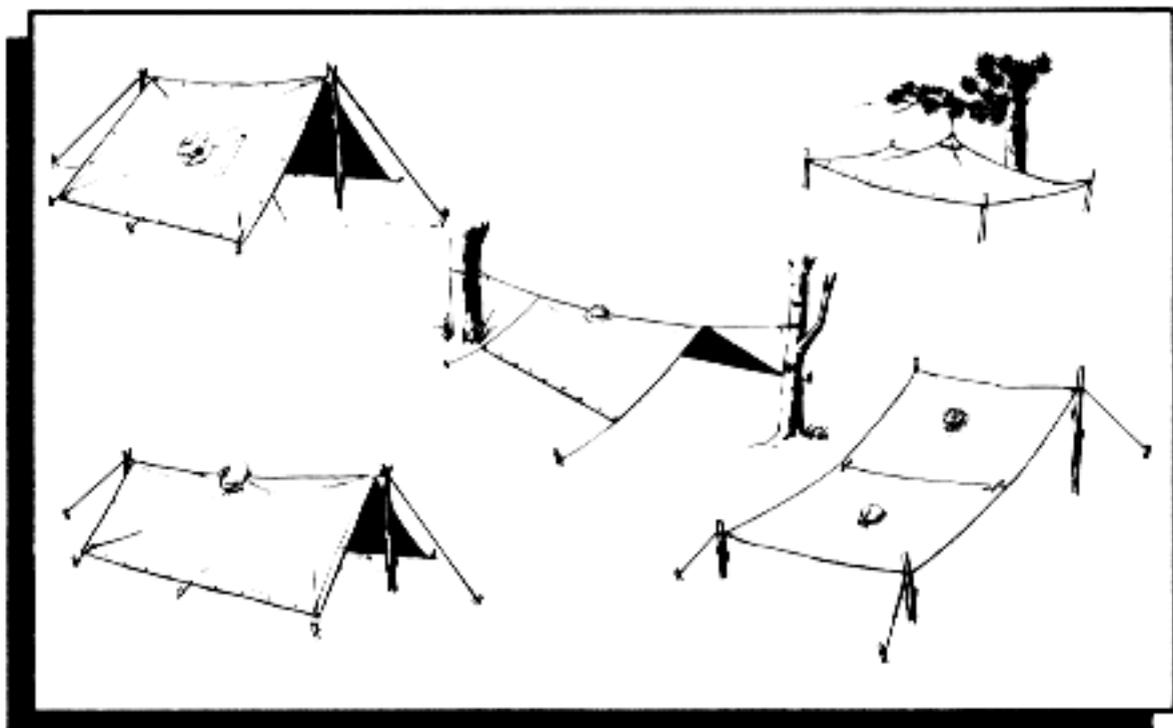

Figure 3-3. Poncho in miscellaneous shelter configurations.
**Shelter.** Various types of shelters and lean-tos can be made by attaching ponchos to trees, tree branches, bushes, sticks, or poles. Always dig a ditch under the bottom edge of the shelter to drain off rainwater. Pitch the poncho with the hood closed, and use as a shelter for one person. Attach two ponchos to each other to make various types of shelters (figure 3-3).